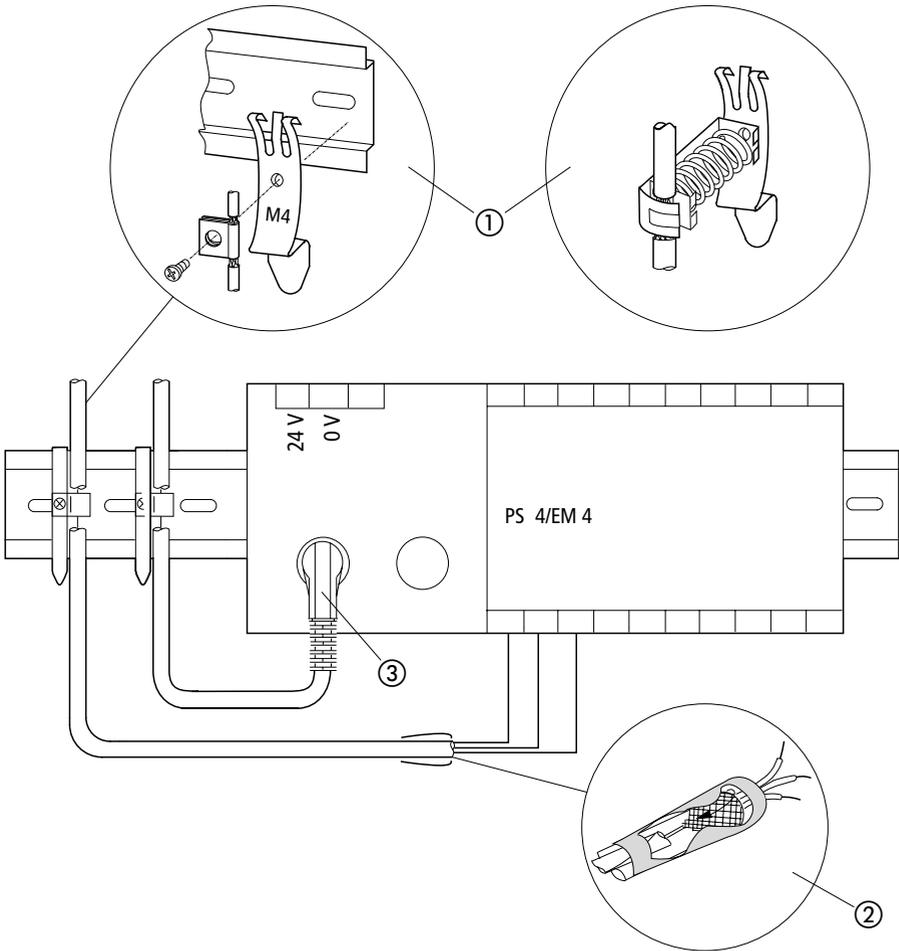

Figure 3: Grounding the screens of the cables
Route screened data and signal cables on the left and the right of the device along the shortest possible distance and connect the screen braid to the ground terminal using a low-impedance connections and large contact areas (See Figure 3, item ①).
- Connect the screen braid with the metal sleeve of the plug connector (DIN plugs) ③.
- Insulate the end of the screen braid as close as possible to the signal cable entry ②.
- ▶ Create a low-impedance connection between the screen of the Suconet K data cable and the ground terminal over the largest possible area (e.g. using a metal cable clamp) (see Figure 3).